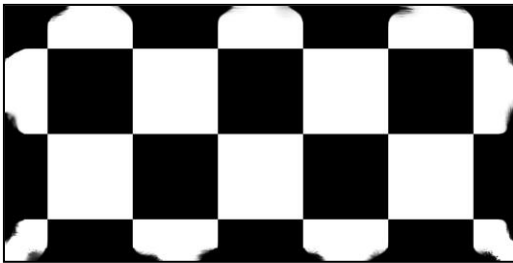

Fig. 2 Sample of the used checkerboard pattern to calibrate the camera
- The checkerboard must have an even number of squares along one side (e.g. X) and an odd number along the other side (Y) or vice versa.
- We noticed that it's recommended to blur or smudge the border corners of the checkerboard that's attached to the edges of the board or otherwise an error might happen on the detection process. However, the provided patterns by us have this smudginess at the corners (Fig. 2).